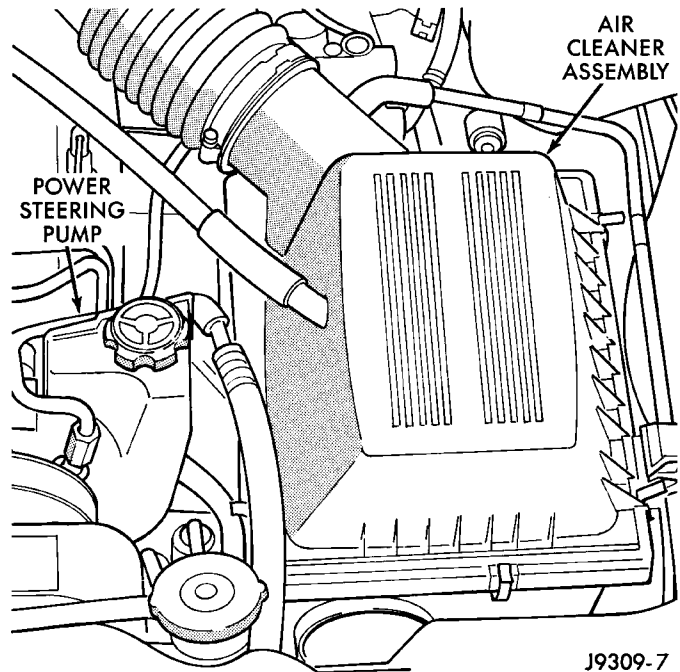

Fig. 31 Air Cleaner Assembly & Power Steering Pump
(21) Remove the fuel line bracket from the intake manifold.
(22) Remove the air cleaner assembly (Fig. 31).
(23) Disconnect the hoses from the fittings at the steering gear.
(24) Drain the pump reservoir.
(25) Cap the fittings on the hoses and steering gear to prevent foreign objects from entering the system.
(26) Raise and support the vehicle.
(27) Disconnect the wires from the engine starter motor solenoid.
(28) Remove the engine starter motor.